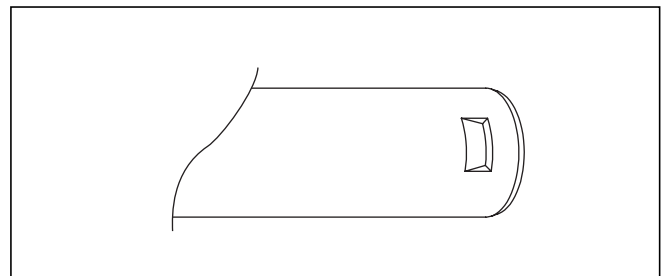

Fig. 2.21 Flue duct
**The catch on the top of the terminal must lock firmly into the notch in the flue duct (fig. 2.21).**